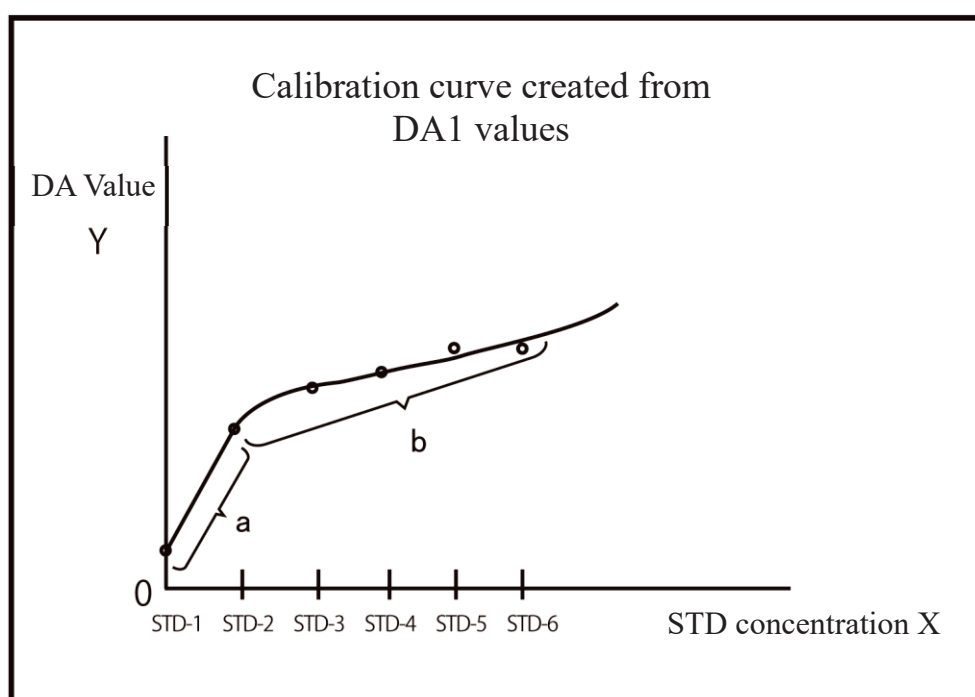

Figure 1
- Linear fit → between STD-1 and STD-2 (Figure 1-a)
- Cubic fit → between STD-2 and STD-6 (Figure 1-b)